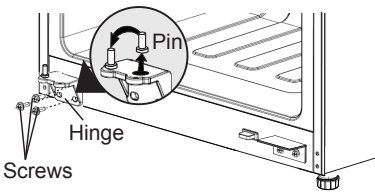

Figure 7
- Unscrew hinge pin from bottom hinge and transfer to threaded hole on opposite side. (See Figure 7.) Reinstall bottom hinge in left hand corner of cabinet using same three screws removed in Step 6.